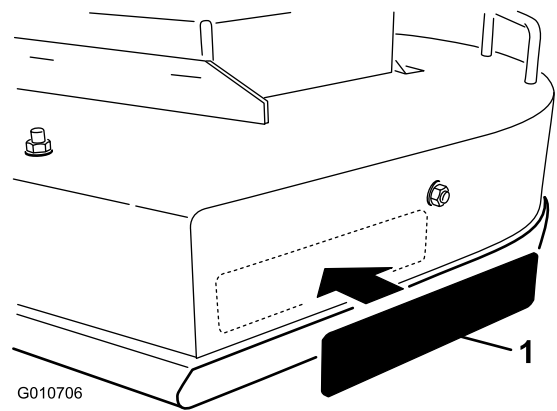

Figure 6
- C. Peel the decal from the backing and install it in place. (Figure 6).
16. Install the decal to the area shown in Figure 6.